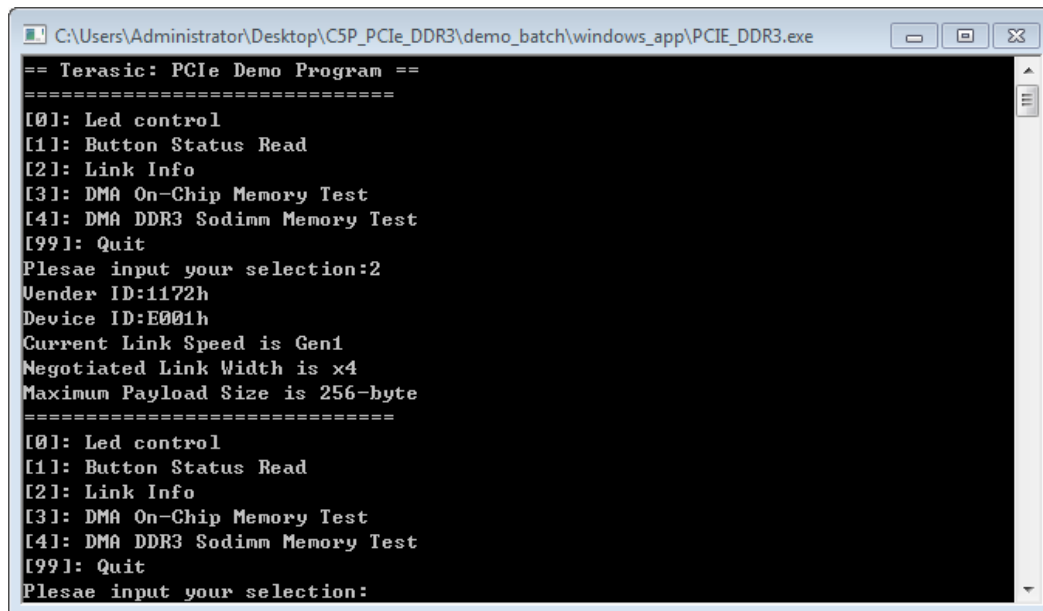

Figure 7-16 Screenshot of Link Info
6. Type 2 followed by the ENTER key to select the Link Info item. The PCIe link information will be shown as in **Figure 7-16**.